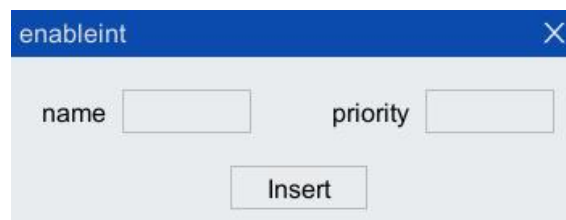

Figure 5-40 "enableint" instruction configuration interface
Step1. Click "Insert Cmd> Interrupt Trigger> enableint" option in the toolbar of the program editor to pop up "enableint" instruction interface, as shown in Figure 5-40.